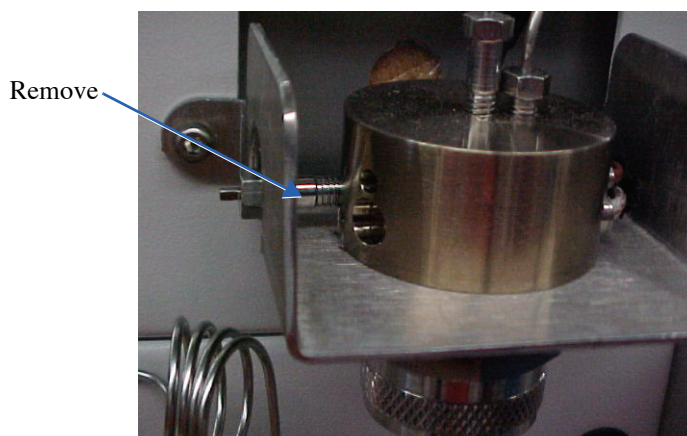

Figure 11.1. Remove the sparge fitting plug assembly
1. Remove the sparge fitting plug assembly on the sparge manifold; see Figure 11.1.